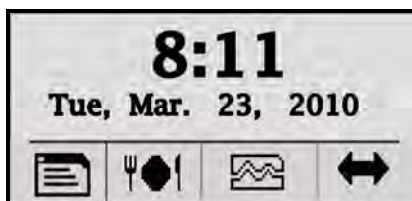
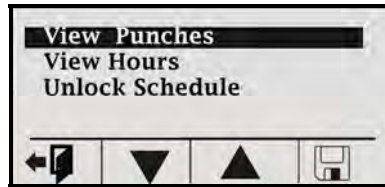
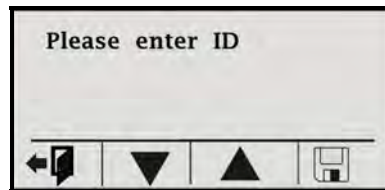

Figure 16: MTX-16 Normal Startup Display
Figure 17: View Employee Punches
Figure 18: Enter ID for Punches
Step 1. From the normal main display (see **Figure 16**) press the menu  button on the left to view employee information (see **Figure 17**). From this screen, use the **Back**  button to exit and return to the main display.
- Step 2.** Use the Function buttons (see **Figure 17**) as indicated underneath the display to move Up ▲ or Down ▼ to highlight “View Punches” and press **enter enter** to select and the screen will change to the following (see **Figure 18**).